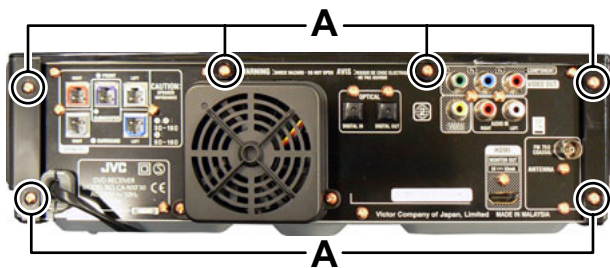

Fig.1
3.1.1 Removing the Top cover (See Fig.1 to 3)
- (1) Remove the six screws **A** attaching the Top and Right cover. (See Fig.1)